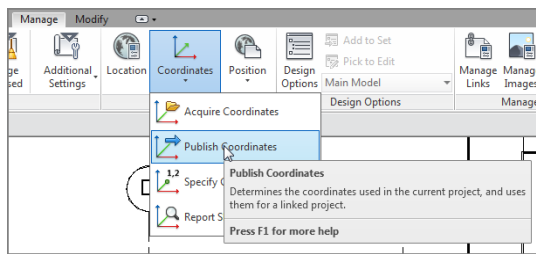

FIGURE 20.21: Publishing the coordinates
- 1. On the Project Location panel of the Manage tab, click Coordinates > Publish Coordinates, as shown in Figure 20.21.